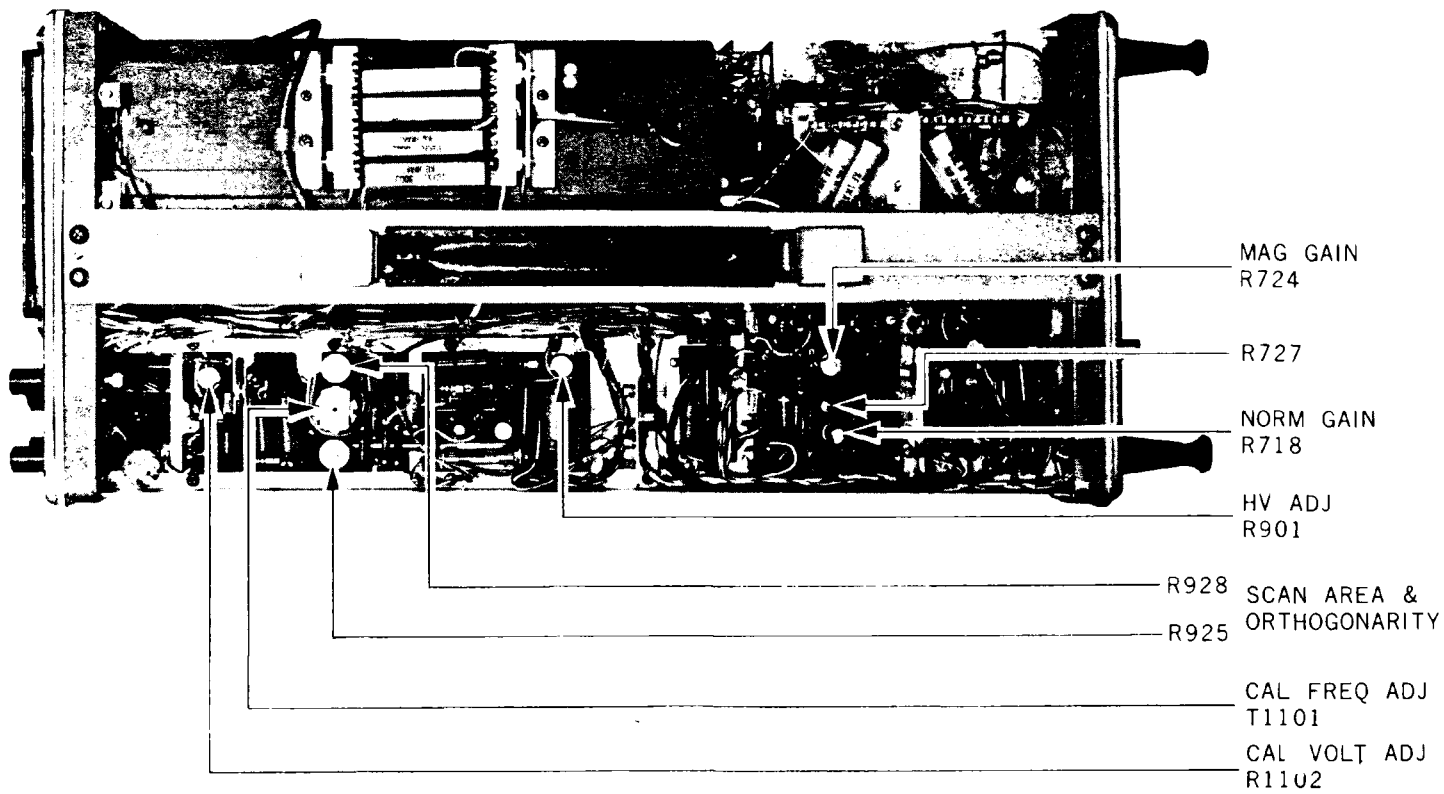

Figure 4-7 Top View
b. **High Voltage Power Supply Adjustment.** Adjust R901, H.V. Adj (see Figure 4-7) for a voltage of -1450 V ± 10% at the HV supply test point (see Figure 4-5).
(1) **Alignment of X and Y Axes.** Set A SWEEP MODE to the AUTO position and obtain a free-running sweep. Adjust TRACE ROTATION to align the trace with the horizontal graticule lines. With a clip lead, short the collectors and TR207 and TR208 together. Adjust R925 and R928 (see Figure 4-7) to align the trace with the center horizontal graticule line. Remove the clip lead from the collectors of TR207 and TR208.
Adjust R718 (Figure 4-7) so that the 11th pulse occurs exactly at the 11th graticule line.
(2) Magnifier Accuracy. Set HORIZ DISPLAY to A and A TIME/CM to 1 msec. Set the Time Mark Generator output to 1 ms. Adjust R724 (Figure 4-7) so that the markers are exactly 10 cm apart when MAG is switched to the X10 position.
calibrator output to the Channel 1 input. Set CALIBRATOR VOLTS to 10. Set Channel 1 VOLTS/CM to 2. Adjust R1102 (Figure 4-7) for a display exactly 5 cm high.
Adjust T1101 (Figure 4-7) for a 1:1 Lissajous pattern.